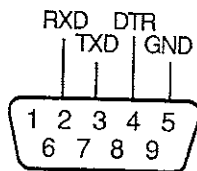

Figure 5-1. UDL45 RS-232 Connector Pins
The RS-232 port uses a male, 9-pin sub-miniature D connector (DE-9P) located on the rear panel. A diagram of the RS-232 connector pin assignments (see Figure 5-1) is printed on the rear panel to the right of the connector. Note that the UDL45, like most computer ports, printers, and terminals, is defined as Data Terminal Equipment (DTE). This means that for most applications, DTE-to-DTE (null modem) cables are required.
- (1) Using Figure 5-1 and the wiring information for your terminal, connect the UDL45 RS-232 port to the terminal's serial data port.
- (2) Set the terminal's serial port to 8 data bits, no parity, and 2 stop bits. If this setting cannot be made, communications with the UDL45 will not be possible.
- (3) Using the BAUD auxiliary function, set the UDL45 data rate to match the data rate of the terminal. See Section 3.5.5.
- (4) Using the commands as described in Section 5.3, verify communications with the UDL45.
- (5) If when trying to communicate with the UDL45 the REM annunciator flashes consistently and cannot be cleared, perform the following steps:
- (1) Using Figure 5-1 and the wiring information for your printer, connect the UDL45 RS-232 port to the printer's serial data port.
- (2) Set the printer's serial port to 8 data bits, no parity, and 2 stop bits. If this setting cannot be made, communications with the UDL45 will not be possible.
- (3) Using the BAUD auxiliary function, set the UDL45 data rate to match the data rate of the printer. See Section 3.5.5.
- (4) Using the PRINT auxiliary function, enter the parameter for the desired print interval. See Section 3.5.3.